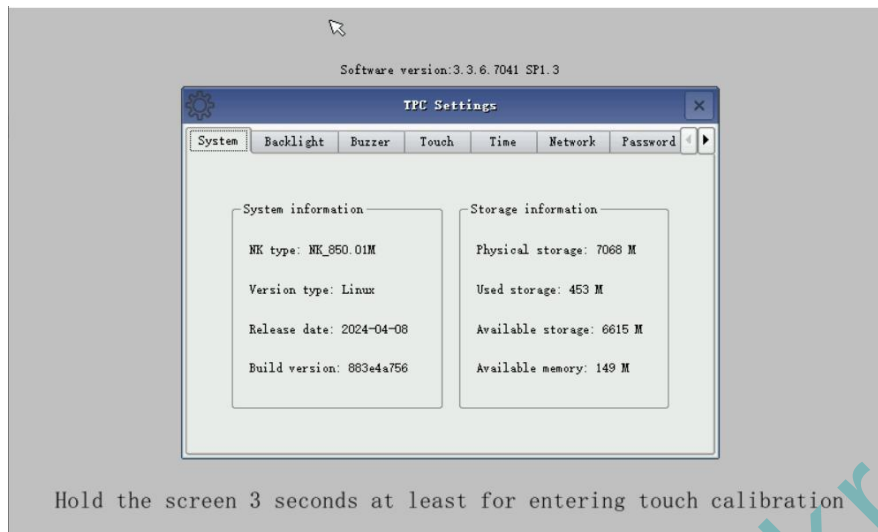

Figure 7.26: TPC System Settings Interface
3) Once you have successfully accessed the system configuration interface, please click "System Parameter Configuration." Upon clicking, the "TPC System Settings" interface will appear (as shown in Figure 7.26).